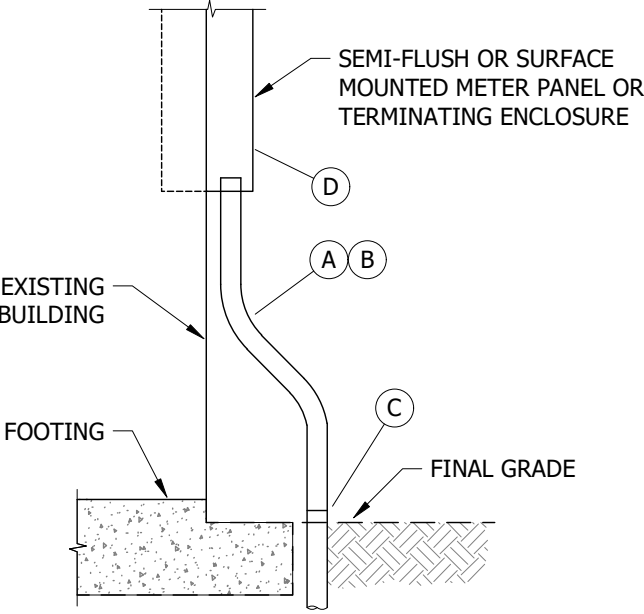
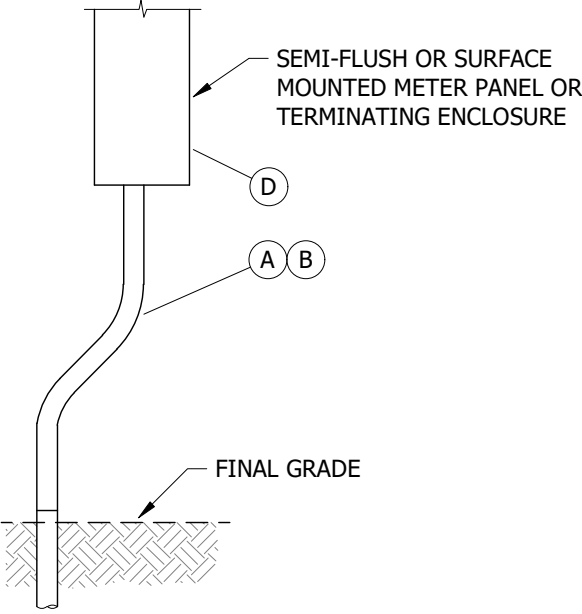

FIGURE 1
FIGURE 2
- I. THIS STANDARD PROVIDES A MEANS TO AVOID EXCAVATING INTO AN EXISTING BUILDING FOOTING WHEN CONVERTING EXISTING OVERHEAD SERVICES TO UNDERGROUND (SEE FIGURE 1). IT ALSO APPLIES TO EXISTING OR NEW SERVICES WHEN A HORIZONTAL OFFSET IS REQUIRED DUE TO FIELD CONDITIONS (SEE FIGURE 2).
- ① THIS INSTALLATION IS FOR EXTERIOR WALL MOUNTED PANEL USE ONLY. IT IS INSTALLER'S RESPONSIBILITY TO FOLLOW ALL APPLICABLE STATE AND LOCAL ELECTRICAL CODES.
- ② WHEN PVC CONDUIT TRANSITION THROUGH CONCRETE, THE SMOOTH SURFACE OF THE PVC AND CONCRETE CAN CREATE A COLD JOINT AND THE HYDRAULIC ACTION AND PRESSURE OF WATER AROUND A FOUNDATION CAN LEAK.
- (a) SEE UG3605, FIGURE 1 FOR CORRECT BOX SIZE.